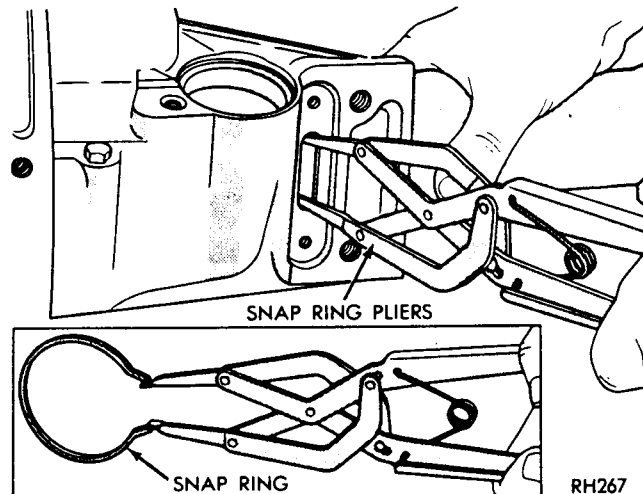

Fig. 7—Remove or Install Extension Housing
(3) Remove bolts securing extension housing to the crossmember. Raise transmission slightly with service jack, then remove center crossmember and support assembly.
(4) Remove extension housing to transmission bolts. When removing or installing extension housing (step 6), the gearshift lever must be in "1" (low) position. This positions parking lock control rod rearward so it can be disengaged or engaged with the parking lock sprag.
(5) Remove screws, plate, and the gasket from bottom of extension housing mounting pad. Spread large snap ring from output shaft bearing (Fig. 7).
(1) Place a new extension housing gasket on the transmission case. Position output shaft bearing retaining snap ring in extension housing. Slide extension housing on output shaft guiding the parking lock control rod knob past the parking sprag. While spreading large snap ring in housing (Fig. 7), carefully tap housing into place, then release the snap ring. Make sure snap ring is fully seated in bearing outer race ring groove.
(2) Install and tighten extension housing bolts to 32 ft. lbs. (43 N-m).
(3) Install gasket, plate and screws on bottom of the extension housing mounting pad.
(4) Install the center crossmember and rear mount assembly, tighten retaining bolts. Lower transmission to install extension housing to support bolts and tighten to 50 ft. lbs. (68 N-m).
(5) Install the speedometer pinion and adapter.
(6) Carefully guide front universal joint yoke into extension housing and on the output shaft splines. Align marks made at removal and connect propeller shaft to rear axle pinion shaft yoke.
(7) Add fluid to transmission to bring up to proper level.